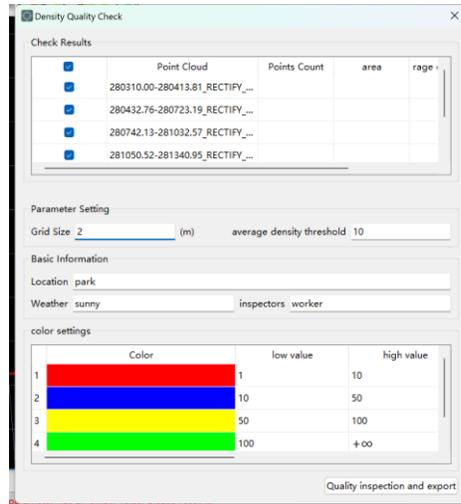

Figure 3-92 Density Quality Check dialog box
2. Click <Solve> → <Quality Check> → <Density Quality Check> in the main interface to pop up the dialog box (Figure 3-92).